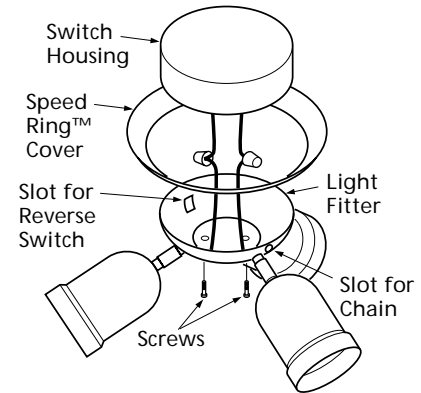

Figure 7d - Attaching Light Fixture
1. Align the slots in the light fitter with the chain and reverse switch on the switch housing as shown in Figure 7d. The Speed Ring™ cover should sit firmly between the light fitter and switch housing.
2. Insert and tighten two #6-32 x 1 1/4" screws. Refer to Figure 7d.